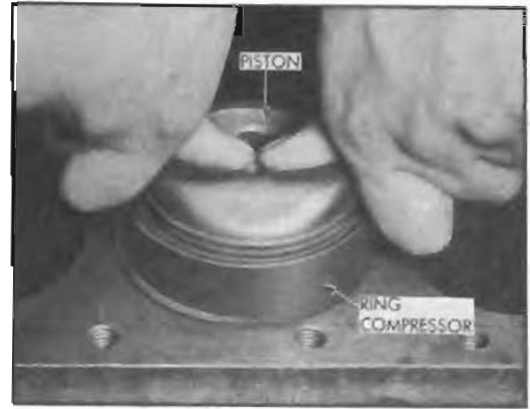

Figure 2-34—Snapping Piston into Cylinder Bore
7. Insert rod and piston assembly into cylinder bore with hollow side of piston toward crankshaft. With ring compressor resting squarely on top of cylinder crankcase, snap the piston down into bore by using the thumbs as shown in figure 2-34. An alternate method is to grip the compressor firmly as if to close the gap, then